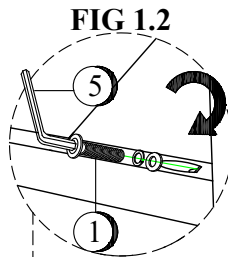

FIG 1.2
**Step 1.2** Attach all legs (B,C,D,E), insert the JCBC Bolt with washer (1) into the pre-drilled holes on the Cross bar (I, J) into the Leg, tighten the JCBC Bolt with washer with Allen Key provided as shown on FIG 1.2